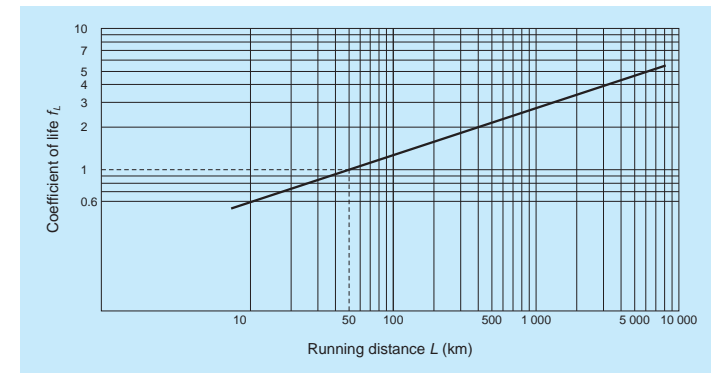
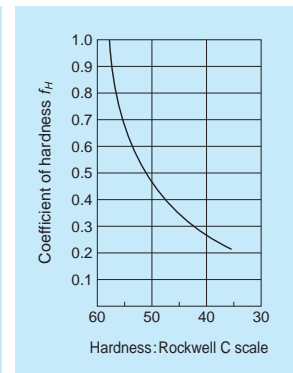

Fig. 5 Relationship between life factor and running distance
Fig. 6 Hardness factor
- P : Radial load (N)
- $f_L$  : Life factor (Refer to Fig. 5)
This formula is used provided that the shaft hardness is HRC58 or higher. Rated life is shorter if the shaft is softer. In this case, find the hardness factor  $f_H$  from Fig. 6, and multiply the value.
From Fig. 5 and Fig. 6,